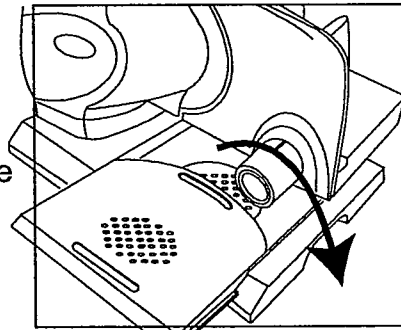

Figure 5
7. Set the desired cutting thickness by turning the Thickness Adjustment Knob. Turning the Knob clockwise will increase the thickness of the slice. The setting will be displayed on the Control Panel. See Figure 5